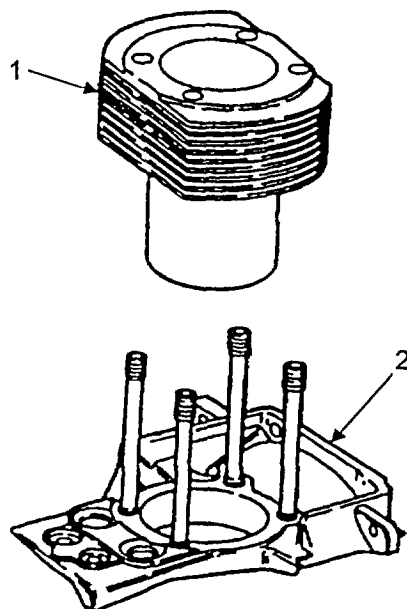

FIGURE 5-36. CYLINDER
- a. Matchmark cylinder (Figure 5-36, Item 1) and crankcase (2) with marking color to ensure proper installation during assembly.
- b. Lift cylinder (1) from crankcase (2).
c. Clean cylinder seat in crankcase (Figure 5-36, Item 2) with dry cleaning solvent and dry with low pressure compressed air. Check that cylinder seat is smooth and flat.